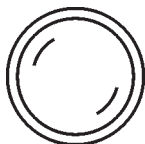

Figure 42. MPEC Control Switch (Manual Position)
2. Place the **MPEC Control Switch** in the **MANUAL** position to start the engine (Figure 42). Observe that the Warning and Emergency Stop lamps on the Engine Operating Panel are lit during the initial starting of the engine. If no abnormal conditions exists, both lamps will turn off.
4. Place the **MPEC Control Switch** (Figure 42) in the **OFF/RESET** position.
8. To restart the engine due to error codes, place the **MPEC Control Switch** in the **MANUAL** position (Figure 42)